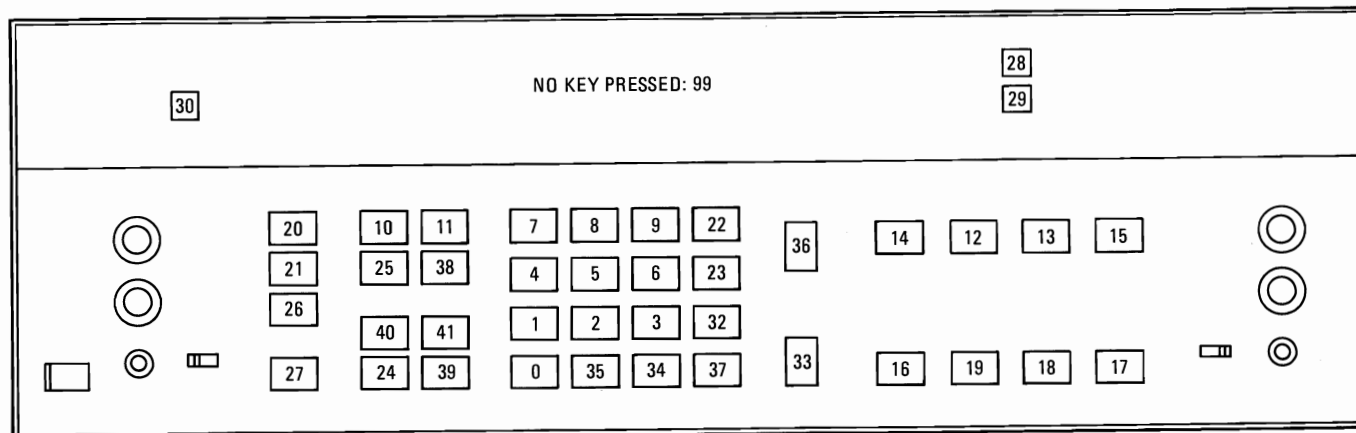

Figure 8-127. Key Scan Codes
- (See Figure 8-127 for key scan codes.)